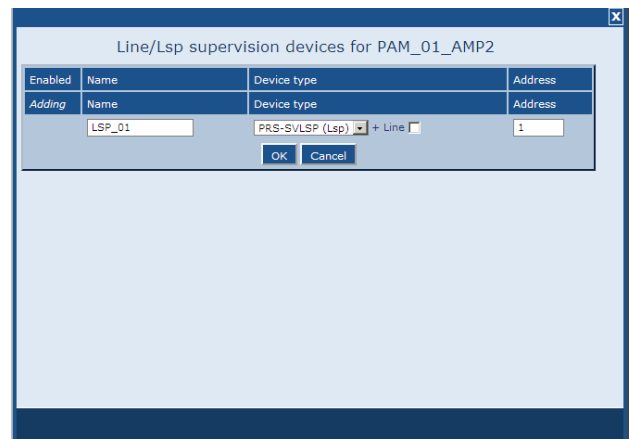

figure 43.16: Add supervision device, step 3
- 3 Enter the data of the supervision device (see figure 43.16 for an example).
- Enter the address that was assigned to the supervision device in the *Address* field (see figure 43.16).